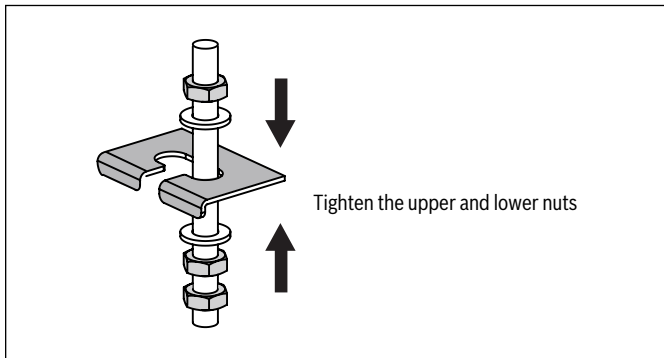

Figure 28
- e. Hang the cassette by fitting the mounting tabs onto the suspension bolts and secure the nuts (Figure 28). If the length of the hanger rod exceeds 59-1/16in (1.5m), two diagonal support rods must be added to enhance stability.